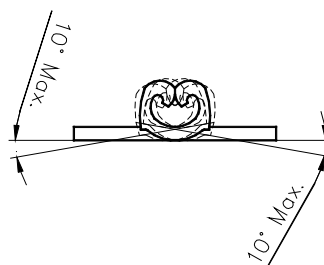

Figure 5
- Twist or roll of the crimped contact shall not exceed the limits specified in Figure 5.